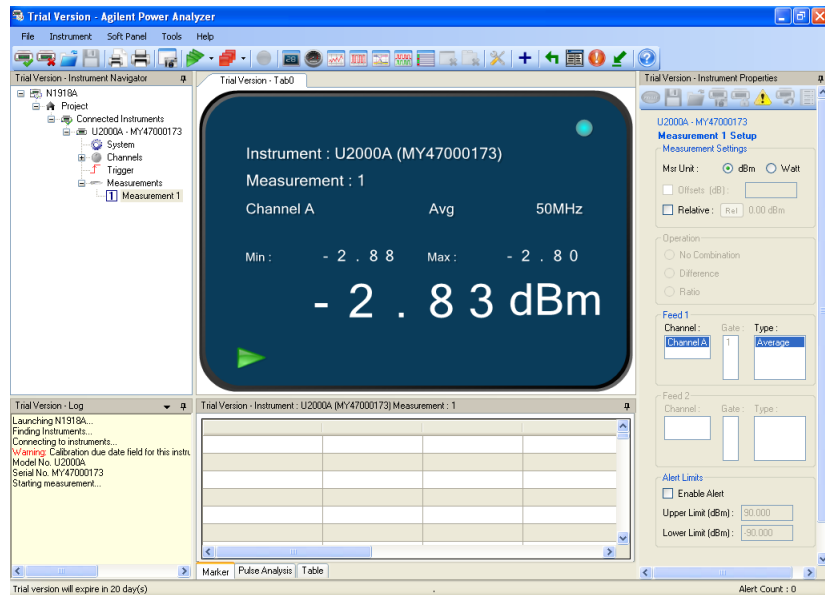

Figure 16 Trial version of Power Analyzer
- 4 The Keysight N1918A Power Analysis Manager (Trial Version) window will appear as shown in **Figure 16**.